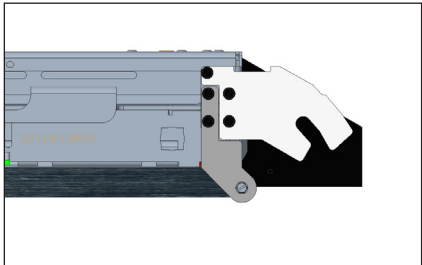

Figure 21: Top Wing Bracket
6. Place the top wing bracket on top of the assembled wing connection and secure into the main cabinet. Refer to **Figure 21**.